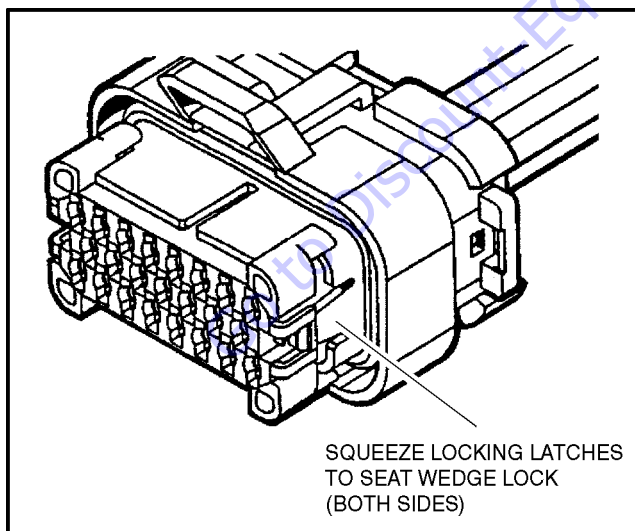

Figure 8-4. Connector Assembly Figure 3
3. After all required contacts have been inserted, the wedge lock must be closed to its locked position. Release the locking latches by squeezing them inward see Figure 8-4.